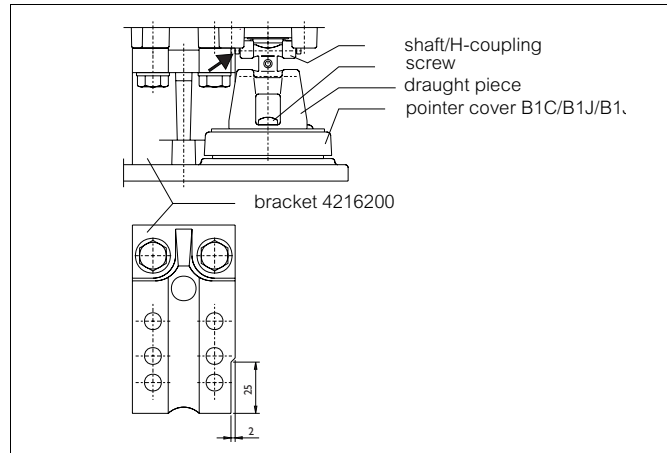
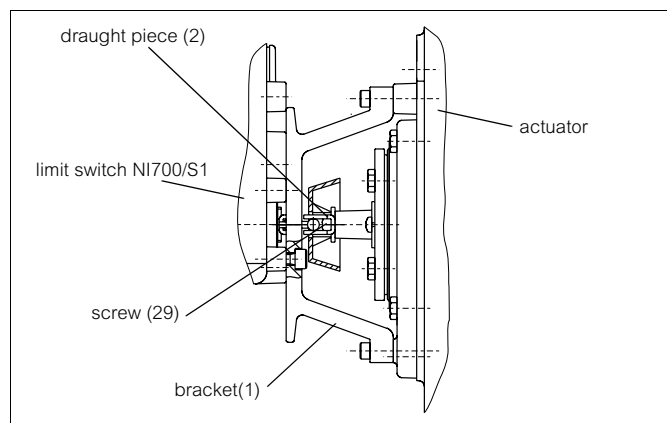
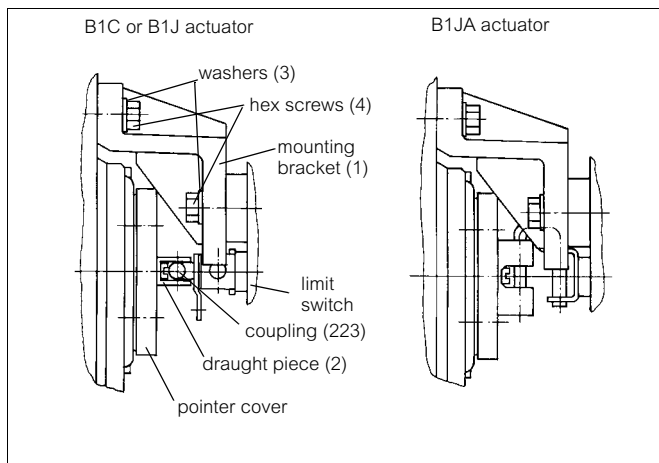
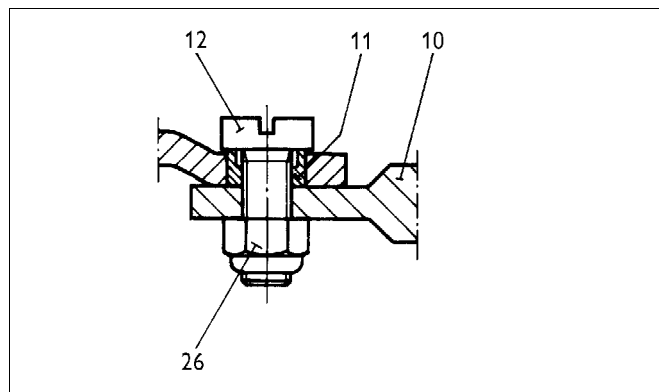

Fig. 3 Installing NI700/S1 position transmitter on B series actuator (older version).
Fig. 4 Installing, S1
Fig. 5 Installing, S2
Fig. 6 Installing the rod (10)
If limit switch NI700/S1 is mounted on an existing actuator B_6-20 with bracket 4216200, make sure that the shaft and draught piece can rotate freely. Remove material from the bracket according to Fig. 3, if needed.
2. Install the pointer (only B_U) parallel with the valve closure member and fasten the draught piece (2) with a screw (29) to the pointer cover (B_U) or to the coupling (QP), as shown in Fig. 4. Secure the draught piece fastening screw with thread-locking compound (e.g. Loctite) and tighten it properly.
3. Fasten the mounting bracket (1) to the position transmitter.
4. Fasten the mounting bracket (1) to the actuator. The mechanical coupling (223) of the position transmitter must be positioned in the draught piece (2) as shown in Fig. 4.
2. Install the pointer parallel with the valve closure member and fasten the draught piece (2) to the pointer cover with the coupling strap positioned as shown in Fig. 5. Secure the draught piece mounting screw with thread-locking compound (e.g. Loctite) and tighten it properly.
3. Fasten the mounting bracket (1) to the position transmitter. **Note the washers (3)!**
4. Fasten the mounting bracket (1) to the actuator. The mechanical coupling (223) of the position transmitter must be positioned in the draught piece (2) as shown in Fig. 5.
2. Install the pointer parallel with the valve closure member and fasten the spline driver (2) to the pointer cover with the coupling strap positioned as shown in Fig. 5. Secure the spline driver fastening screw with a sealant (e.g. Loctite) and tighten it properly.
3. Fasten the bracket (5) to positioner NP700/NE700 with screw (7) and washer (6), see Section 9.5.
4. Fasten limit switch NI700 to the bracket (5), see Section 9.2.
5. Fasten the rod (10) with screws and bushings (12+11). Turn the bushing (11) onto the screw (12) so that the spacing inside the bushing is placed against the head of the screw, see Fig. 6. Apply the outer sphere of the bushing with Molykote BR2 vaseline (or the equivalent).
6. Tighten the lock nuts (26).
7. Fasten the assembly to the actuator. The mechanical coupling of the positioner must be placed into the spline driver (2) as shown in Fig. 5.
2. Install the pointer parallel with the valve closure member and fasten the spline driver (2) to the pointer cover with the coupling strap positioned as shown in Fig. 5. Secure the spline driver mounting screw with a sealant (e.g. Loctite) and tighten it properly.
3. Fasten positioner NP700/NE700 and limit switch NI700 to the mounting bracket (1), see Section 9.6.
4. Fasten the rod (10) with screws and bushings (12+11). Turn the bushing (11) onto the screw (12) so that the spacing inside the bushing is placed against the head of the screw, see Fig. 4. Apply the outer sphere of the bushing with Molykote BR2 vaseline (or the equivalent).
5. Tighten the lock nuts (26).
6. Fasten the assembly to the actuator. The mechanical coupling of the positioner must be placed into the spline driver (2) as shown in Fig. 3.